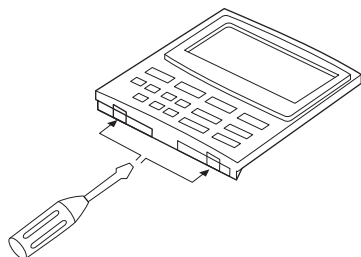

Fig. 3-186
- (1) Remove the cover of the optional wired remote controller. (Fig. 3-186)